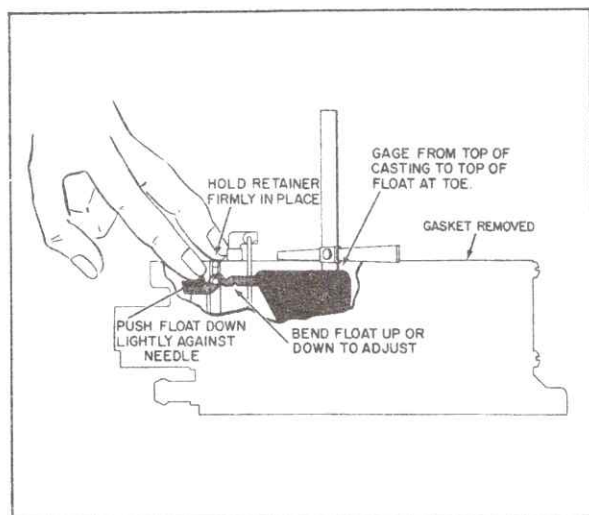

Fig. 6-92 Float Level Adjustment
14. Float Level Adjustment, Fig. 6-92.